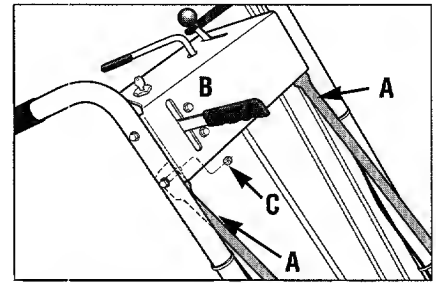

Figure 2-2A: Connect tops of struts to sides of control panel (unless done at factory).
3. If tops of struts (A, Figure 2-2A) are connected to the handlebar control panel (B), go to next step. If not connected, remove nut "C" (Figure